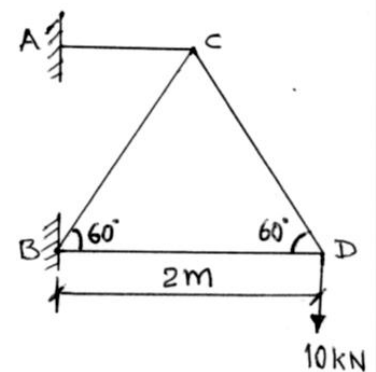

FIG. 5 Q.5(b)
- (b) Find value and nature of the force in the members of truss as shown in Fig. 5 07